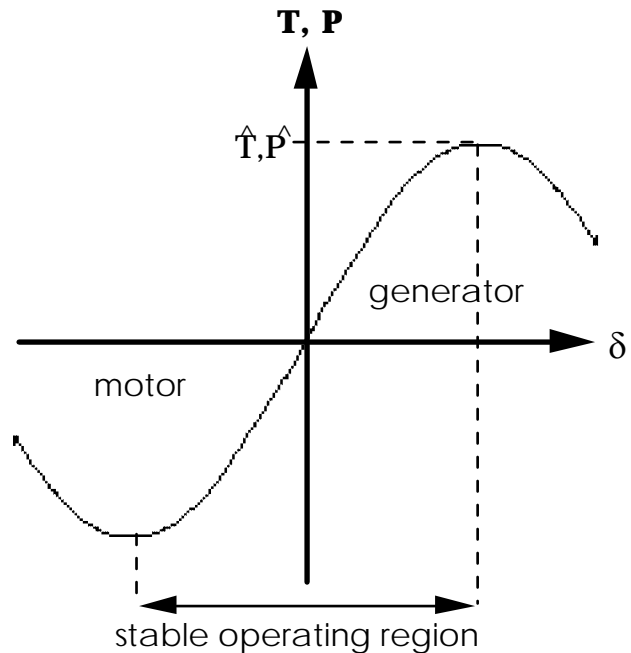

Figure 4.6 Relationship between torque, power and δ for a synchronous machine
- g) The relationship between torque/power and δ is shown graphically in **Figure 4.6**. It is important to note that for $|\delta| > 90^\circ$ the machine will be unstable and will 'pull out' of synchronization. It will no longer operate as a synchronous machine.